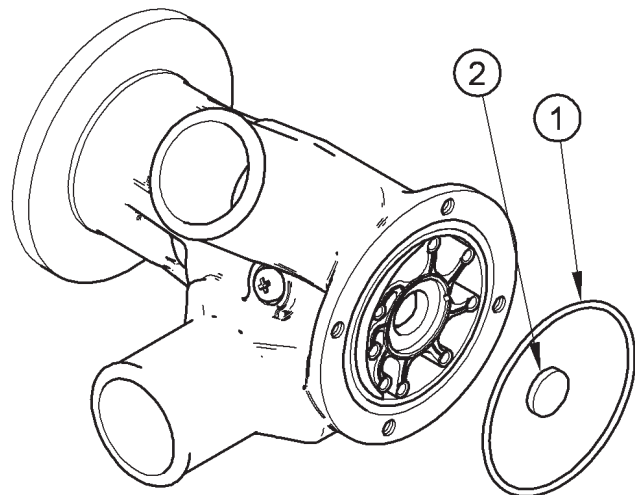
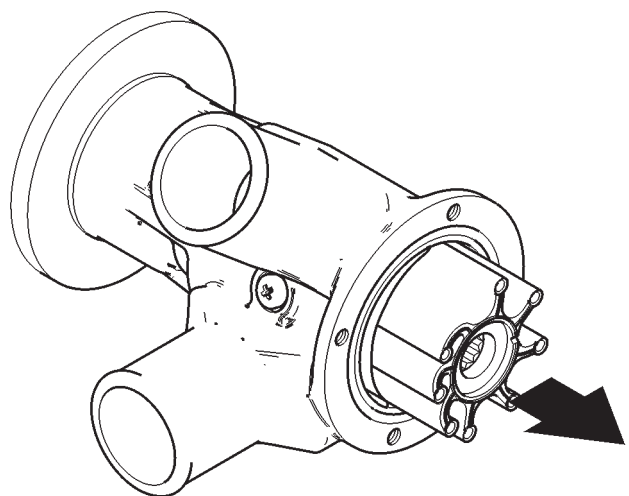

Figure 7
Figure 8
3. Care should be taken with the sealing 'O' ring (item 1 figure 7).
4. Remove the rubber end cap (item 2 figure 7) and then pull the impeller from the shaft (figure 8).